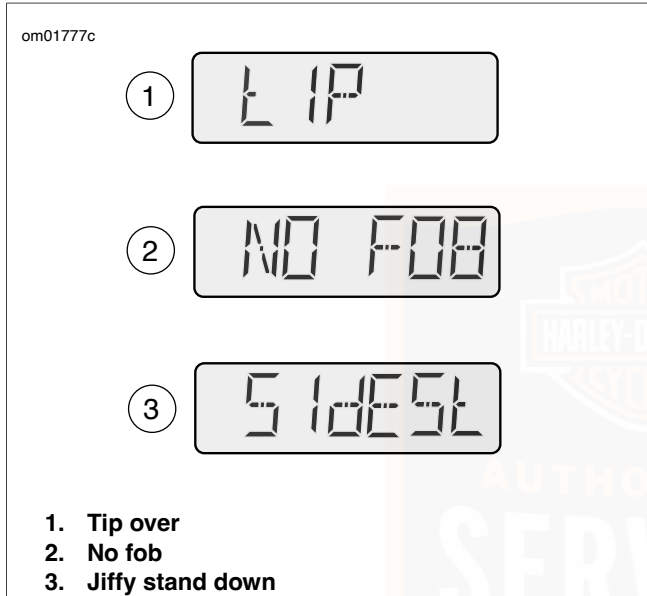

Figure 14. tIP, NO FOB and SidEstAnd
See Figure 14. When the motorcycle is tipped over, the word "tIP" (1) appears in the odometer window. The engine does not start until reset.
See Figure 14. If the motorcycle has a security system and is driven off leaving the fob behind, "NO FOB" (2) is displayed in the odometer window as the motorcycle starts moving. The display lasts for 10 seconds as a reminder to retrieve the fob.
See Figure 14. On international (HDI) models, if the motorcycle is placed into gear while the jiffy stand is down a 'SidEstAnd' (3) message is displayed. See CONTROLS AND INDICATORS, Jiffy Stand Interlock: International Models.